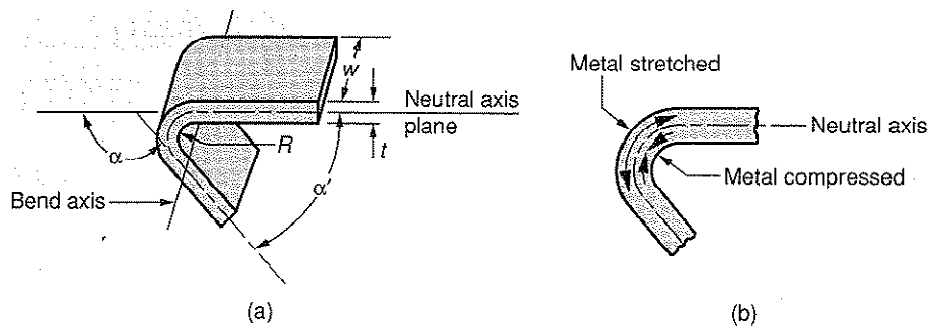
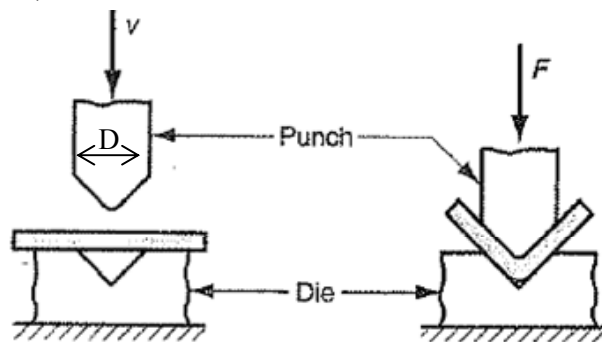

Figure 7.1. (a) Sheet metal bending, and (b) compression and tensile elongation during bending.
Figure 7.2. V-bending operation.
Bending is defined as the straining of the metal around a straight axis (Figure 7.1). During the bending process, the metal on the inside of the neutral plane is compressed, while the metal on the outside is stretched. The sheet metal is plastically deformed to have a permanent bent shape. Bending produces a little or no thickness change of the sheet metal.
In the Figure 7.1, α = bend angle, w = width of sheet, R = bend radius, t = sheet thickness, and $\alpha' = 180^\circ - \alpha$, “included” angle. In this lab we will work on V-bending. Typically, a bending operation is performed using a punch and die. In V-bending the sheet metal is bent between a V-shaped punch and die. The operation is shown in Figure 7.2. When the bending stress is removed at the end of the deformation process, elastic energy remains in the bent part causing it to partially recover to its original shape. In bending, this elastic recovery is called **springback (SB)**. It increases with decreasing the modulus of elasticity, E , and increasing the yield strength, Y , of a material. Springback is defined as the increase in included angle of the bent part relative to the included angle of the forming tool after the tool is removed. After springback, the bend angle will decrease (the included angle will increase) and the bend radius will increase.